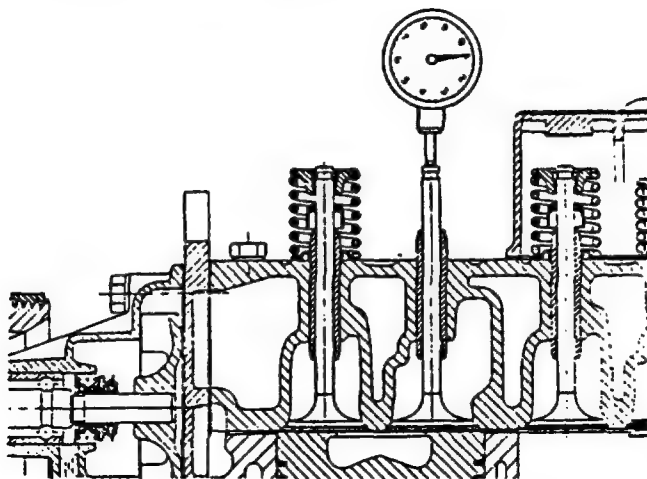

FIGURE 3-10. Checking Piston Drop
- j. Valve can now be depressed until head of valve rests on top of piston, refer to FIGURE 3-10
- k. Mount a dial indicator, refer to FIGURE 3-10 to cylinder head to check intake valve drop. Carefully turn engine a small amount either side of TDC and dial indicator can be zeroed at TDC.